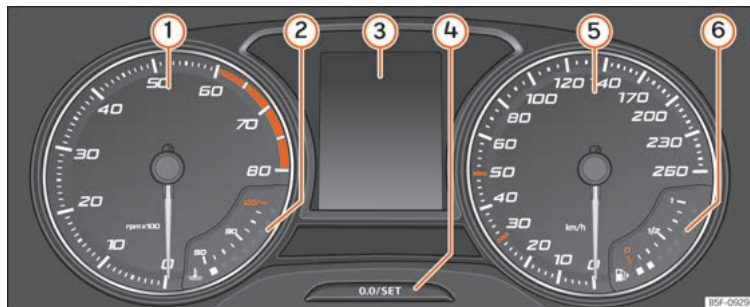

Fig. 126 Instrument panel, on dash panel.
Details of the instruments » **Fig. 126:**
- Briefly press the button  » **Fig. 126**